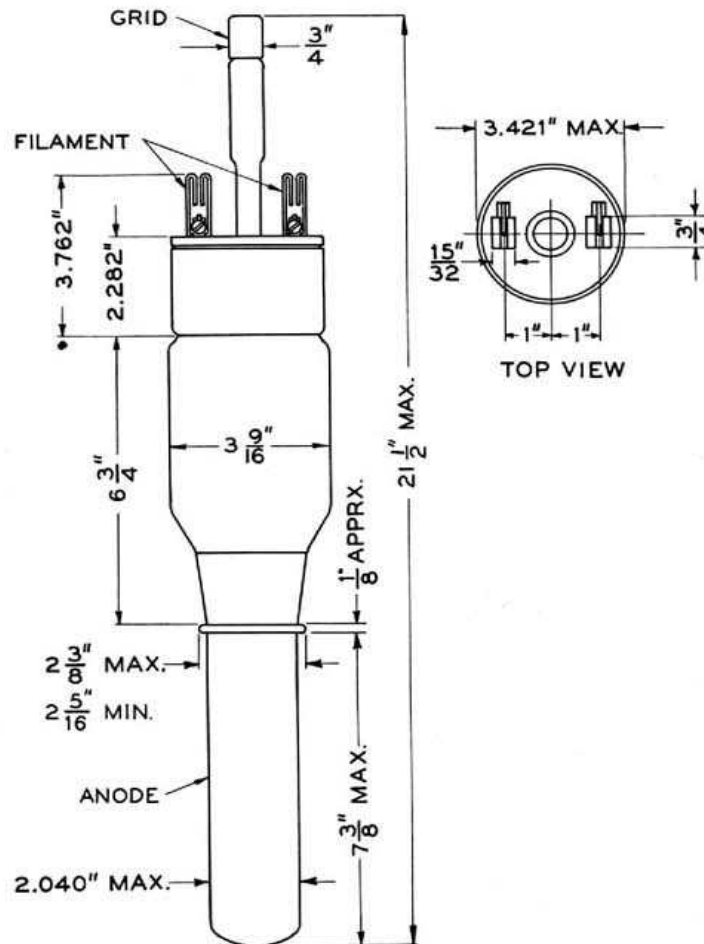

FIG. 1
**Dimensions—**Dimensions and outline diagrams are shown in Figure 1. The overall dimensions are:
**Mechanical**—Figure 1 shows the overall dimensions and basing arrangement for the tube.